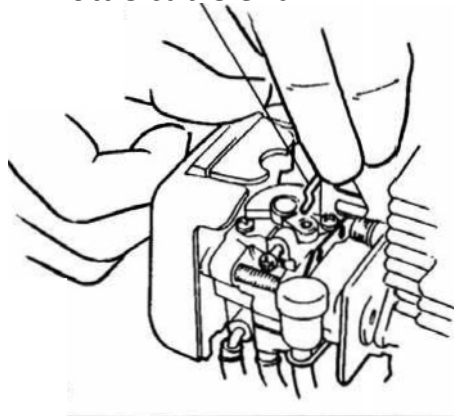

Figure 7
2. Connect the "S"-shaped end of the throttle cable to the throttle lever above the carburetor, as shown in figure 7.